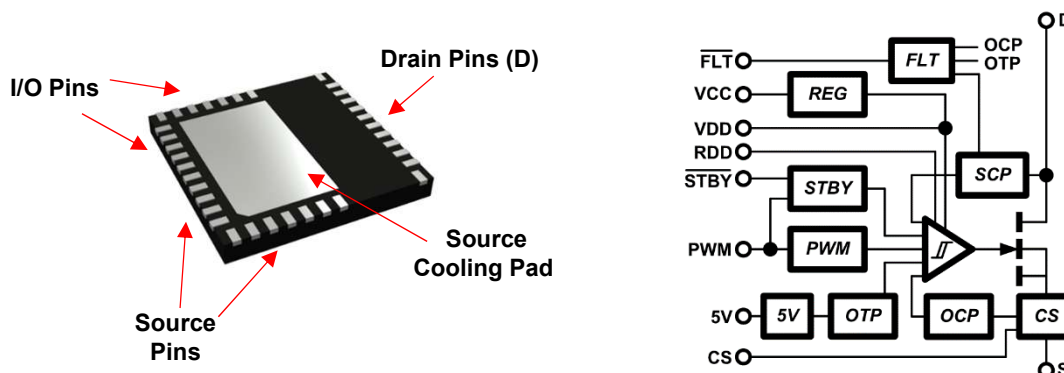

Fig 1. NV6169 PQFN 8x8 package bottom view (left) and simplified schematic (right)
GaNFast Power ICs have been designed into a variety of high-density power supplies due to integrated gate drive, wide range V_{CC} and PWM inputs, internal ESD protection, and large thermal cooling pad. GaNSense technology has provided another layer of key features such as loss-less current sensing, OCP, OTP, and auto-standby mode, that have increased system robustness and reliability, increased system efficiency and reduced standby power. These GaN Power ICs have enabled high-frequency operation with ease-of-use, design flexibility and compatibility with all popular topologies and controllers. To further expand the GaNSense product family into higher power applications, the NV6169 $45\text{ m}\Omega$ version has been developed in a PQFN 8x8 package. The IC pinout of the NV6169 includes (see Fig. 1) Drain pins (D), Source pins (S), I/O pins, and a large Source cooling pad. The I/O pins include IC supply pins, PWM input, dV/dt turn-on control, current-sensing output and fault output. Most of the switching currents of the external power conversion circuit flow from the Drain pins, through the GaN power FET, and to the Source pins. Heat generated from the GaN IC ***must be*** taken out through the Source cooling pad and to the PCB. Large PCB copper areas and thermal vias are then used to transfer the heat to the opposite side of the PCB and/or to inner layers that have large copper planes where it can then be spread and cooled. The cooling pad is conveniently connected to P_{GND} to gain additional PCB thermal copper area.